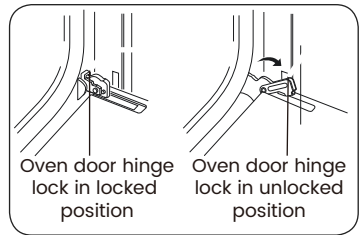

Fig.21
3. Locate the oven door hinge locks in both corners of the oven door, and then rotate the hinge locks toward the oven door to the unlocked position. If the door hinge lock is not rotated fully (see Fig.21 on the left for an example of full rotation), you will not be able to remove the door properly.
See Step 3 (Fig.21) in the “Removing the oven doors” section for the proper locked position.